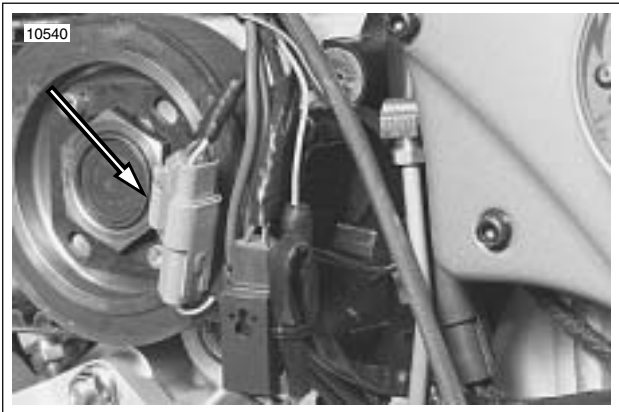

Figure 7-70. Vehicle Speed Sensor Connector [65]
1. See Figure 7-70. Locate the 3-place vehicle speed sensor connector [65] under the sprocket cover. See 2.31 SPROCKET COVER.
1. See Figure 7-70. Disconnect vehicle speed sensor connector [65]. Attach speedometer tester connector to vehicle speed sensor connector.